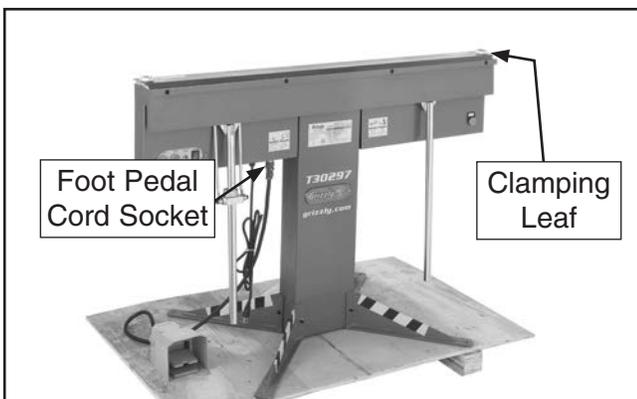

Figure 8. Location of clamping leaf and foot pedal cord socket.
2. Remove clamping leaf that ships on machine (see **Figure 8**).
3. Loosen and unplug foot pedal cord from socket underneath control panel (see **Figure 8**) and remove foot pedal from pallet.